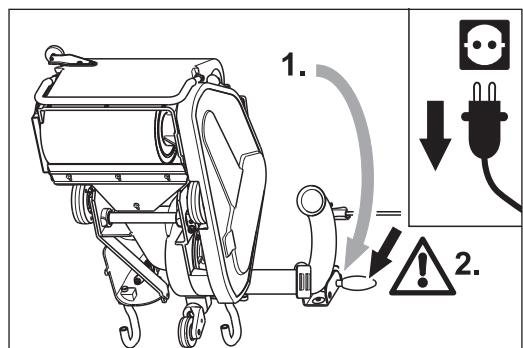

Fig. 57 Tilt the machine backwards (1.). Ensure that the machine is standing securely (2.)!
- 3 Tilt the machine back over the safety guards (Fig. 57, 1.). Ensure that the machine is standing securely (Fig. 57, 2.)!**